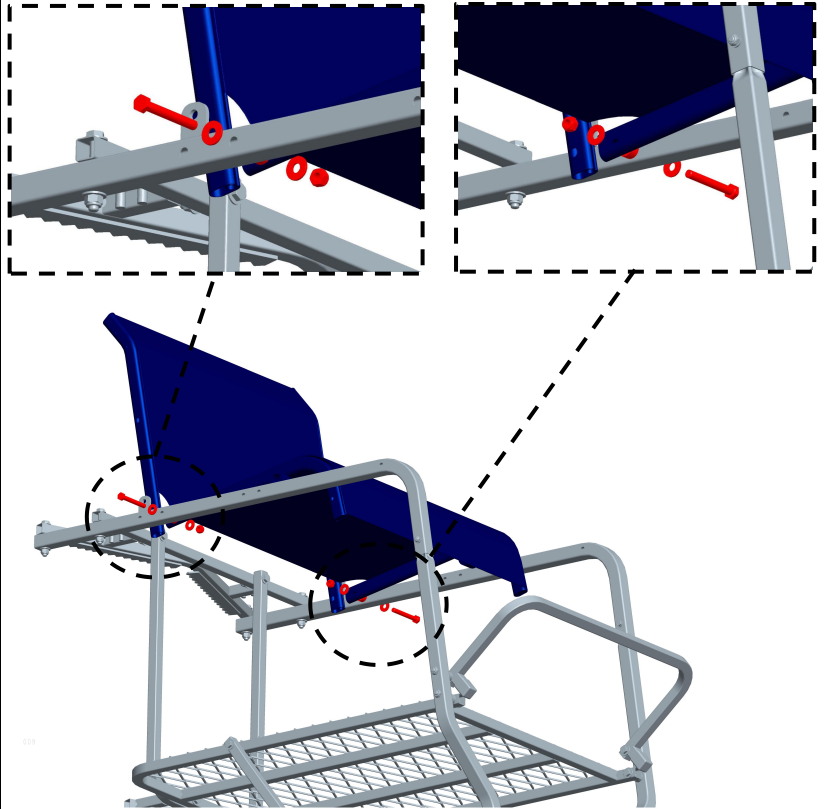

Figure 9
Install the Seat & Backrest Frame (#10) onto Left Bending Bar (#2) and Right Bending Bar (#3) using two (2) M8x65 Bolts, four (4) Steel Washers, two (2) thicker Nylon Washers and two (2) Locknuts as shown in Figure 9. Securely tighten bolts noting seat is designed to rotate up and down.